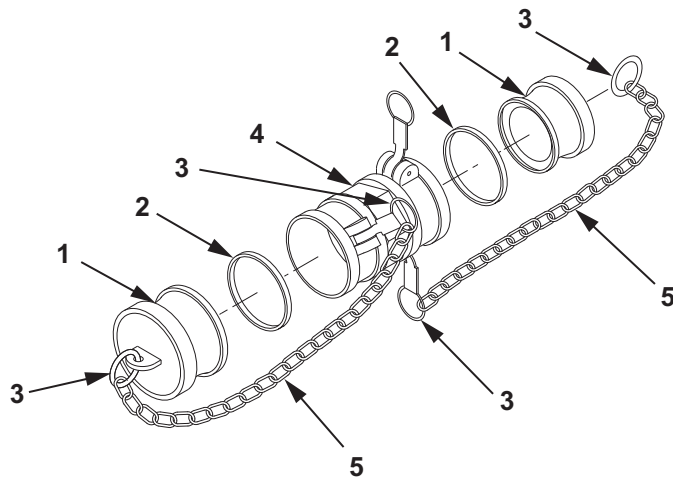

Figure 2. 4 In. Double Female Adapter Assembly.
1. Install four split rings (Figure 2, Item 3) on two chains (Figure 2, Item 5).
2. Install four split rings (Figure 2, Item 3) on two dust plugs (Figure 2, Item 1) and double female adapter assembly (Figure 2, Item 4).
3. Install new gaskets (Figure 2, Item 2) into double female adapter assembly (Figure 2, Item 4).
4. Install dust plugs (Figure 2, Item 1) into double female adapter assembly (Figure 2, Item 4).